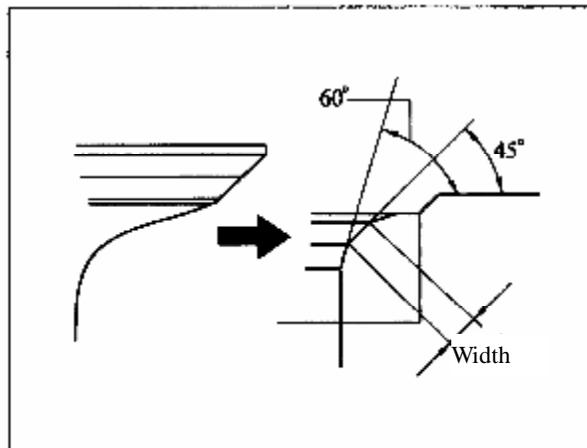

Figure 3-13 Grinding the Valve Seat with 45° and 60° Mill
- (2) If the contact annulus is at the bottom of the valve cone, grind the valve seat with 60° and 45° mill (see figure 3-13).